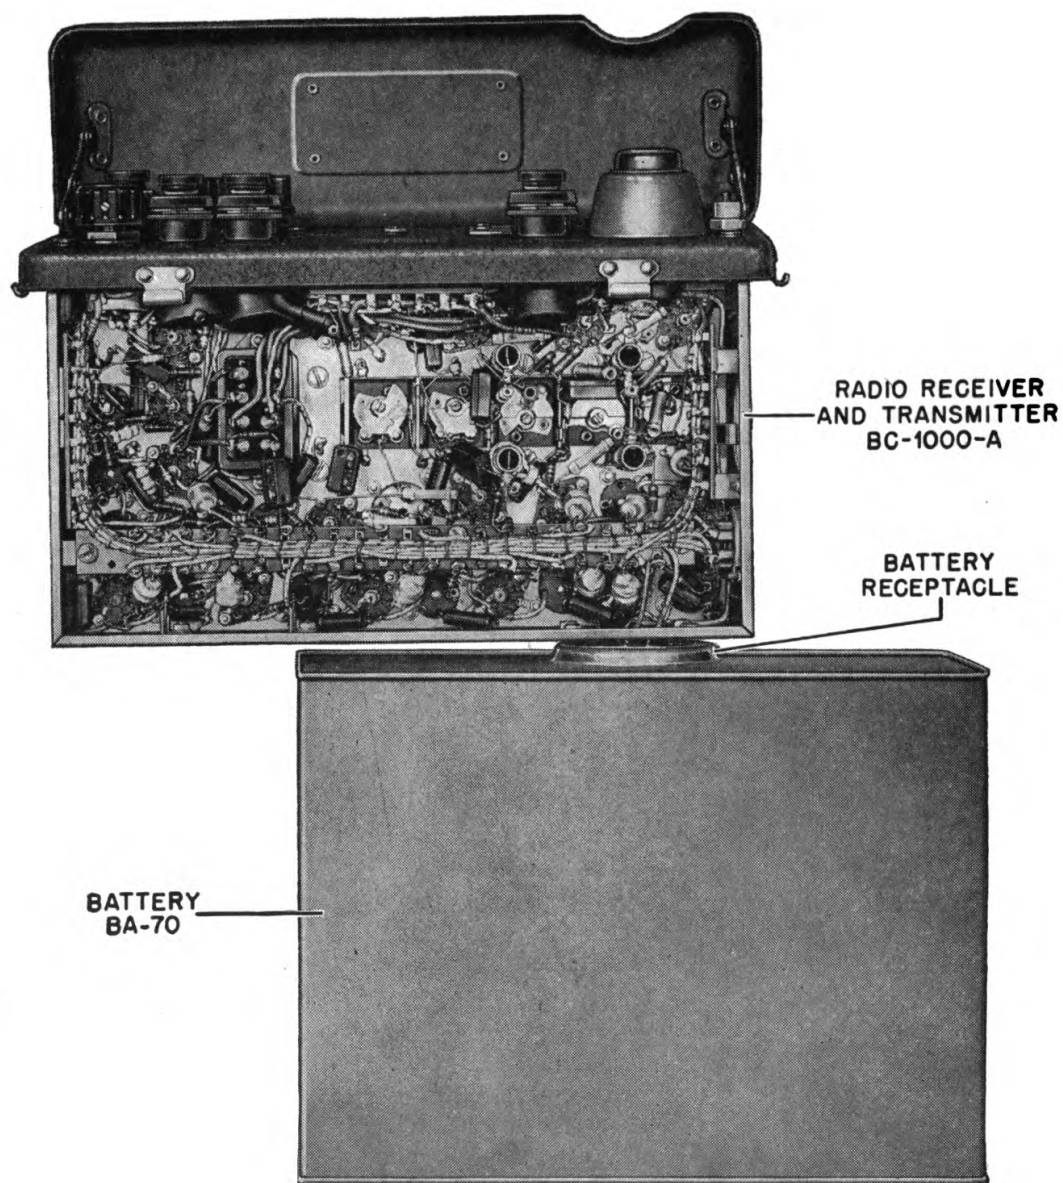
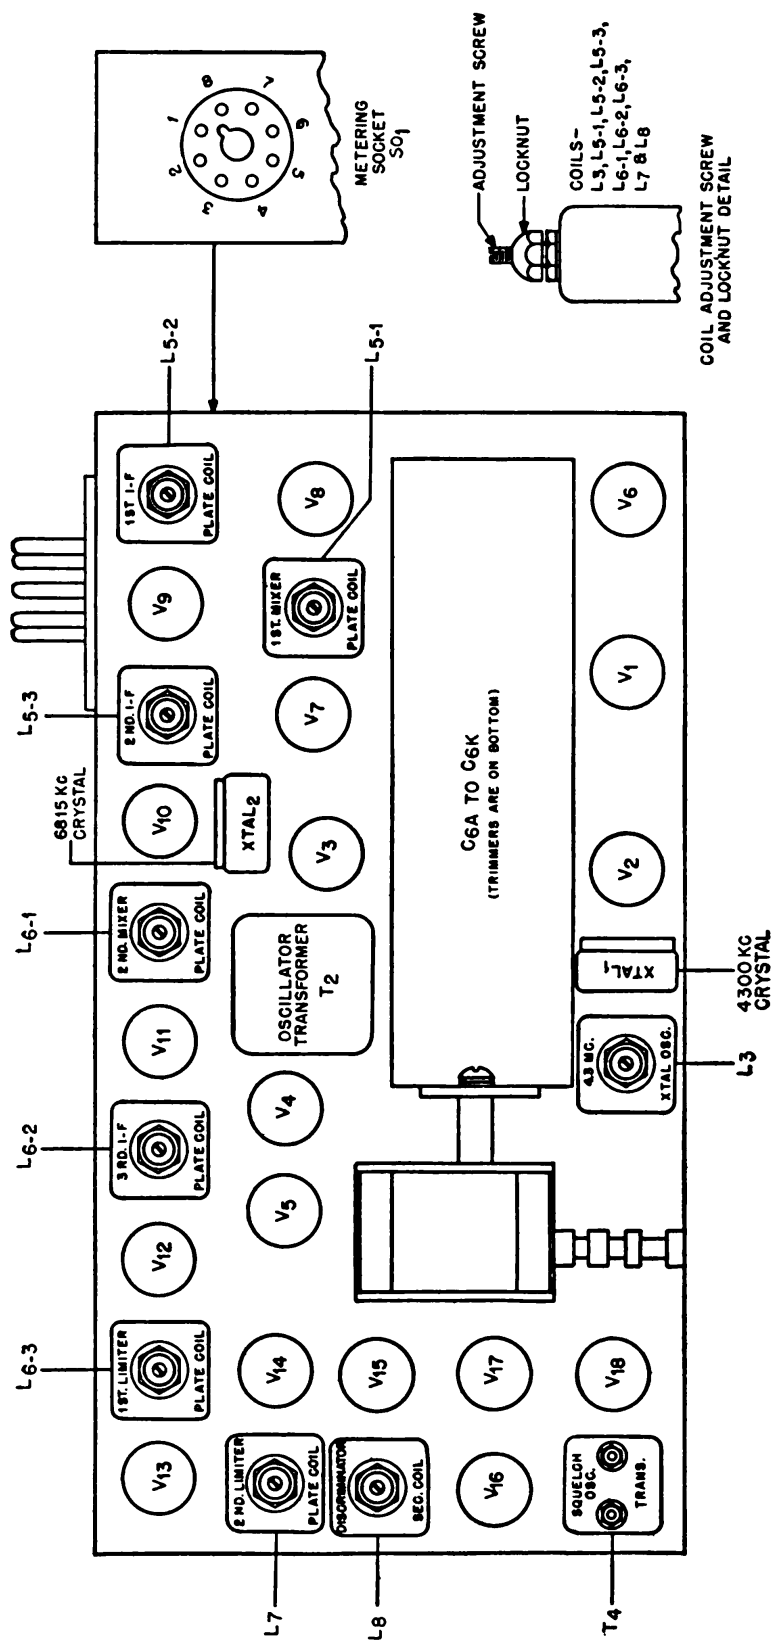

Figure 17. Method of Obtaining Power for Test Purposes.
Figure 19. Radio Receiver and Transmitter BC-1000-A, Alignment Instruction Detail, Top View.
b. To supply power to the set for test purposes while out of the case, plug the chassis directly into the battery receptacle, as shown in Figure 17.
(1) Connect a fresh Battery BA-70 to the radio chassis. The chassis may be plugged directly into Battery BA-70, as shown in Figure 17.
(2) Connect Handset TS-15-A to the MIC. and PHONE No. 1 jacks on the set front panel.
(3) Turn on the 4.3 megacycle signal generator and allow it to warm up for at least 15 minutes.
(4) Turn the set *on* by means of the VOLUME control knob. Allow the set to warm up for at least ten minutes.
(5) Loosen the adjustment locknuts on coils L₃, L₅₋₁, L₅₋₂, L₅₋₃, L₆₋₁, L₆₋₂, L₆₋₃, L₇ and L₈. (See Figure 19 for all adjustment locations.) Loosen just enough to allow adjustment of screw.
(See Figure 19 and 20 for all adjustment locations.)